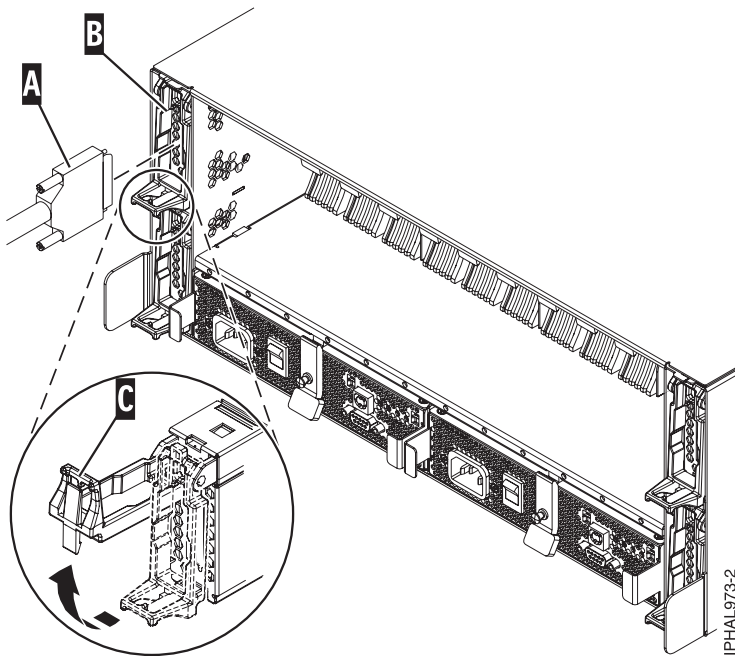
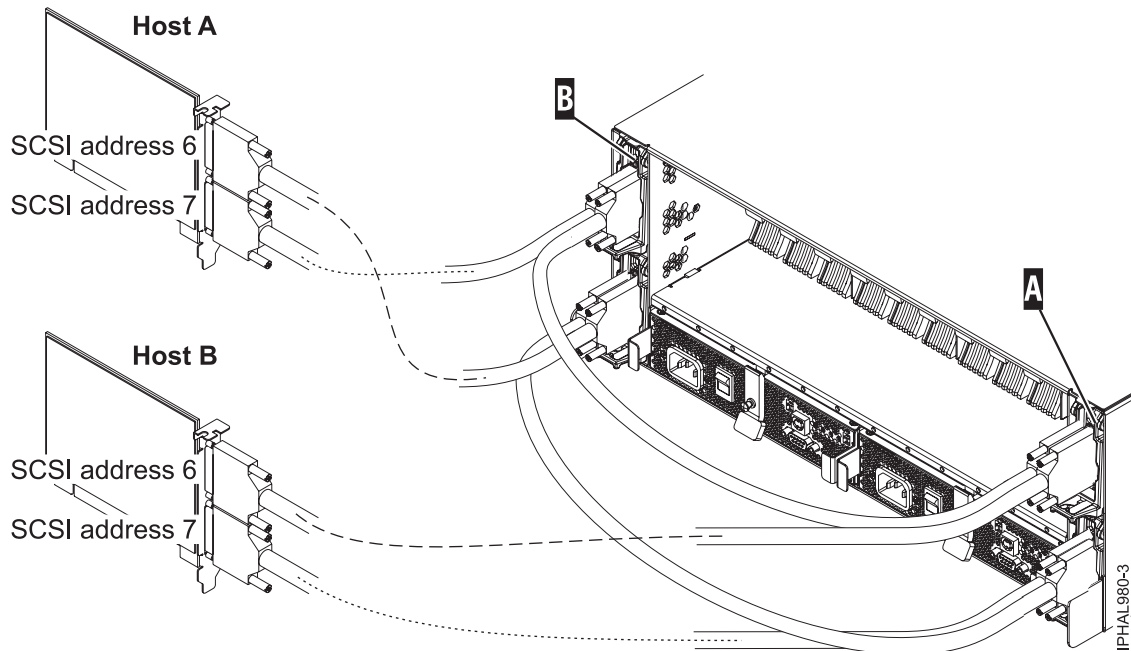
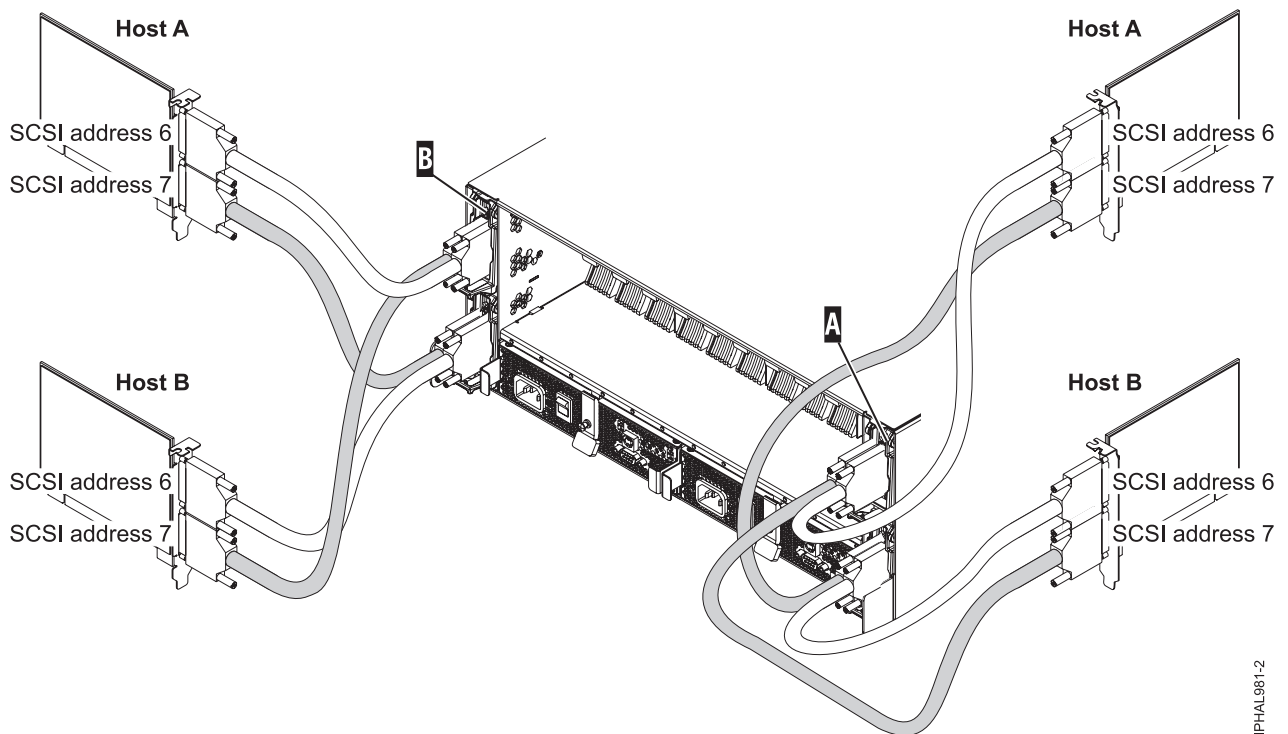

Figure 17. SCSI cable to a single repeater card
Figure 18. SCSI cable to a dual repeater card that is connected with two SCSI cards
Figure 19. SCSI cable to a dual repeater card that is connected with four SCSI cards
- If you are using only single repeater cards or only dual repeater cards, connect your SCSI cable (A) to the initiator repeater card (B). For more details, see Figure 17, Figure 18 on page 49, or Figure 19 on page 49, depending on your situation.